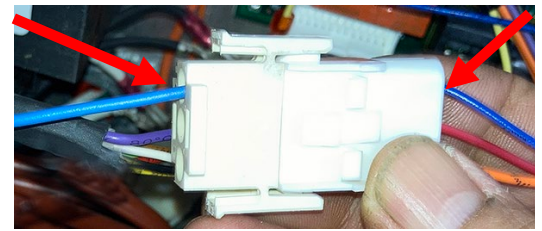

Figure 30
- l. Insert the blue molex wire from the harness from step e into the 3-pin connector directly across the existing blue wire (see Figure 30). Gently pull on the connector to ensure it is locked into place.